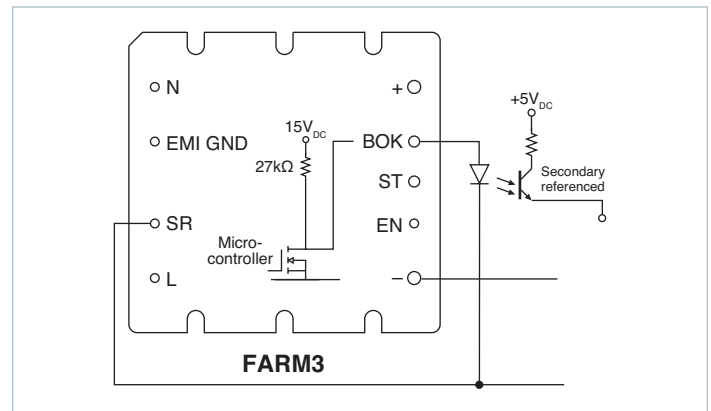

Figure 9.12 — Bus OK (BOK) isolated power status indicator
**Bus OK (BOK) Pin:** (Figure 9.12) The Bus OK pin is intended to provide early-warning power-fail information and is also referenced to the SR pin.